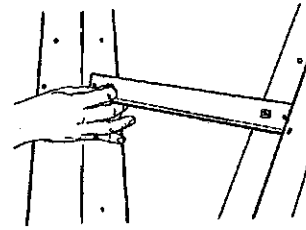

Fig A-10
14. Working on the headstock side of the Power Station, place a short leg brace (6) between the end legs, making sure that the "top ledge" of the leg brace faces toward the motor. See Fig.A-10. Use the leg holes located 10-1/2" from each leg end.